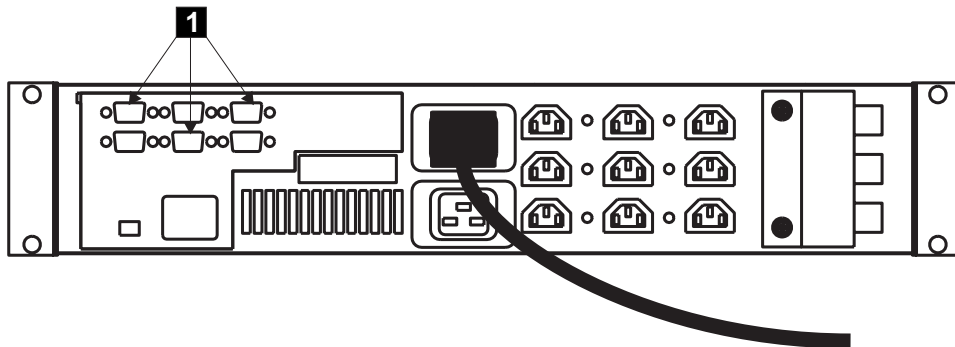

Figure 176. Connecting the 2145 UPS signal cables
4. At the back of the 2145 UPS, connect the signal cables. See **1** in Figure 176.